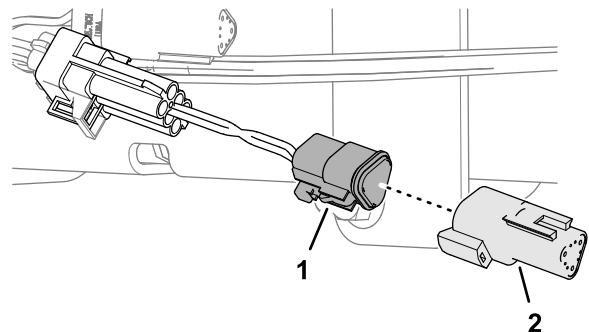

Figure 181
3. Plug the resistor that you removed in Removing the Terminating Resistor (page 77) into the 3-socket connector of the adapter harness (Figure 181).